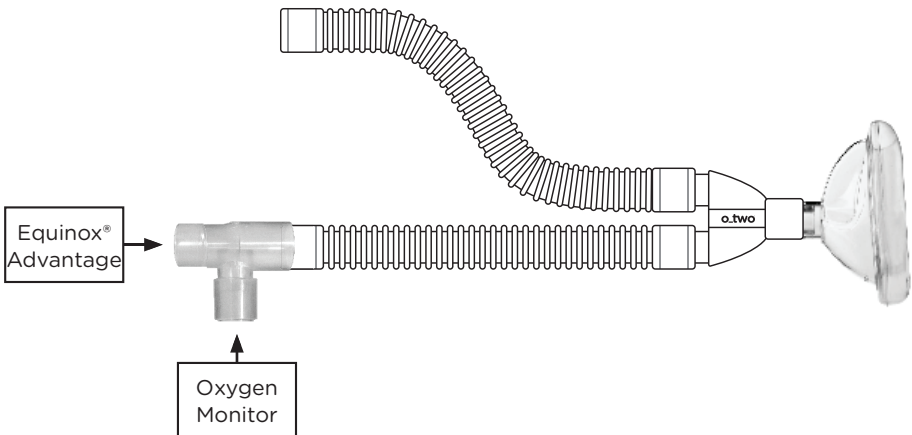

Fig. 2 - Connecting the Oxygen Monitor
- A.** Connect an oxygen monitor to the output connector of the Advantage using a T-Connector (as shown in Fig 2).
- B.** Utilizing a 1 Liter gas calibration syringe, connect the syringe to the patient connection on the patient circuit connected to T-connector (as shown in Fig 2). Turn on the Advantage unit, select the 100% O₂ setting and activate the demand valve by cycling the syringe until the oxygen reading on the monitor has stabilized
To monitor the output of the N₂O/O₂ mixture, an oxygen monitor with alarm should be used on the inspiratory line of the patient circuit. The monitor “Tee” piece is to be placed on the outlet of the mixer prior to the circuit being attached (fig 2).